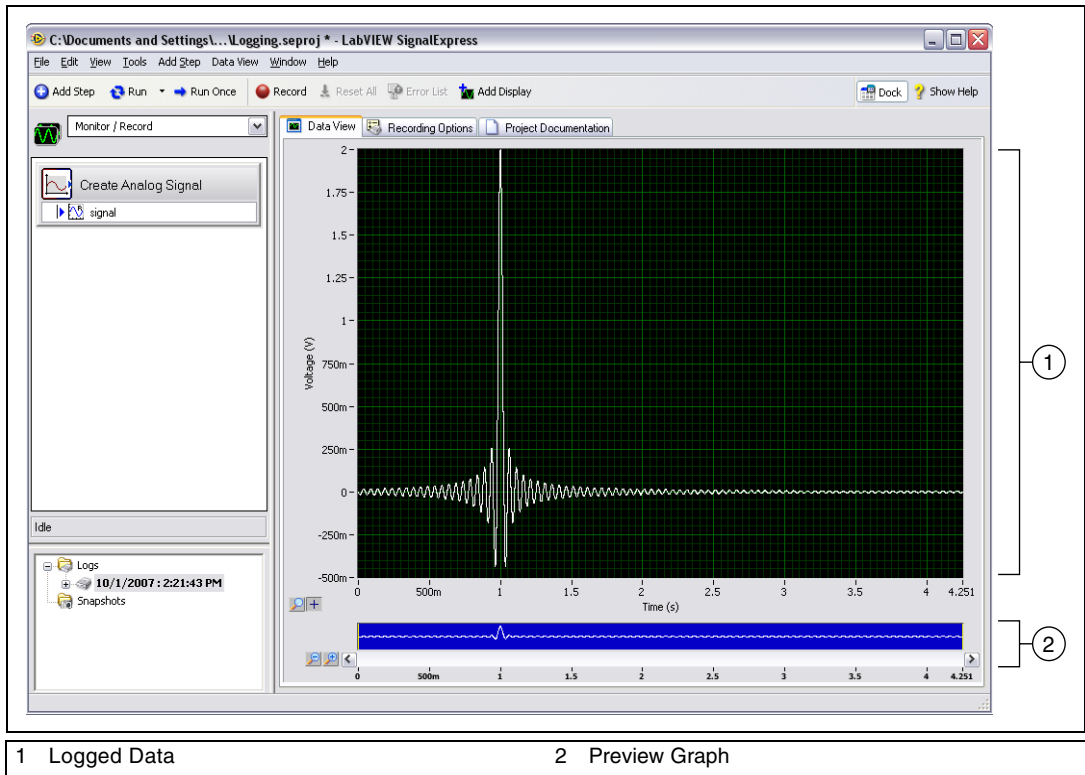

Figure 6-2. Logging.seproj
- The **Logged Data** window displays a list of all logged data in the current project. Select the data log you just recorded from the **Logged Data** window and drag it into the Data View. The Data View displays the logged data and a preview graph, as shown in Figure 6-2. The signal displayed in the Data View might differ from the signal displayed in Figure 6-2, depending on how long you record the signal.